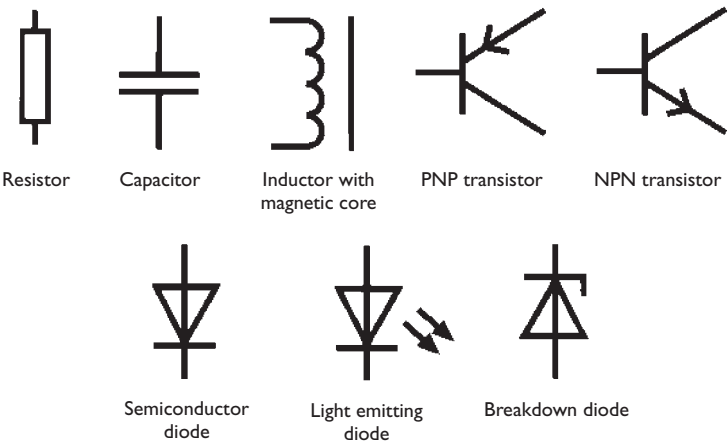

Figure 15.36 Electrical and electronic component symbols
Figure 15.36 shows the symbols for some common electronic components. A brief description follows for several of the components shown. There is no particular symbol for integrated circuits.
- ➡ Name and state a typical use of the electronic components in Figure 15.36.